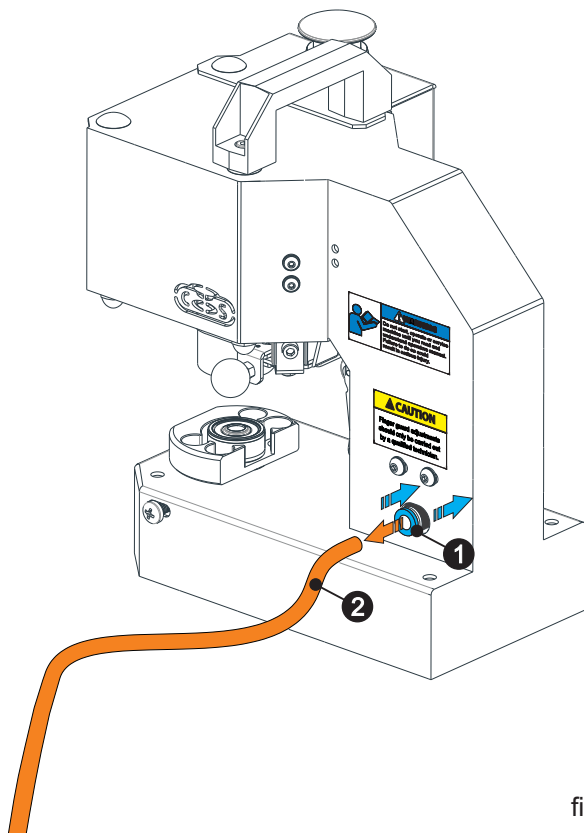

fig. 73
Shut down your air source and unplug the air hose from the machine. In order to unplug the air hose from the machine, push the blue part on the air entrance ❶ to the machine direction and while doing that pull the air hose ❷ at arrow direction as shown in above (fig. 73).